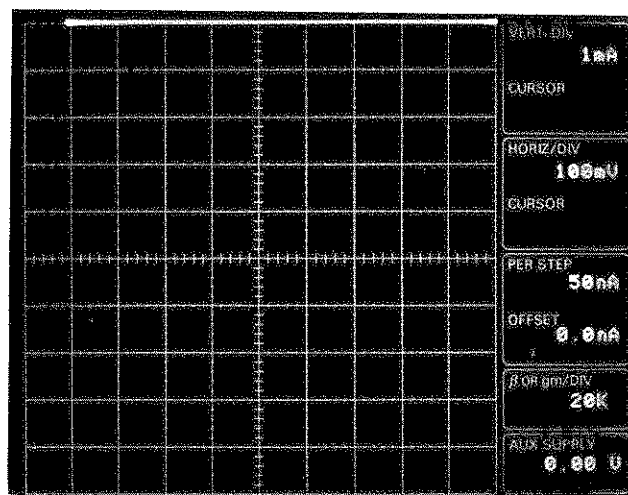

Figure 3-6. Display of signal diode reverse-bias characteristics.
27. Set the COLLECTOR SUPPLY POLARITY control to - (full wave) and rotate the COLLECTOR SUPPLY VARIABLE control clockwise. Note the display of the reverse voltage characteristic of the diode (see Figure 3-6).